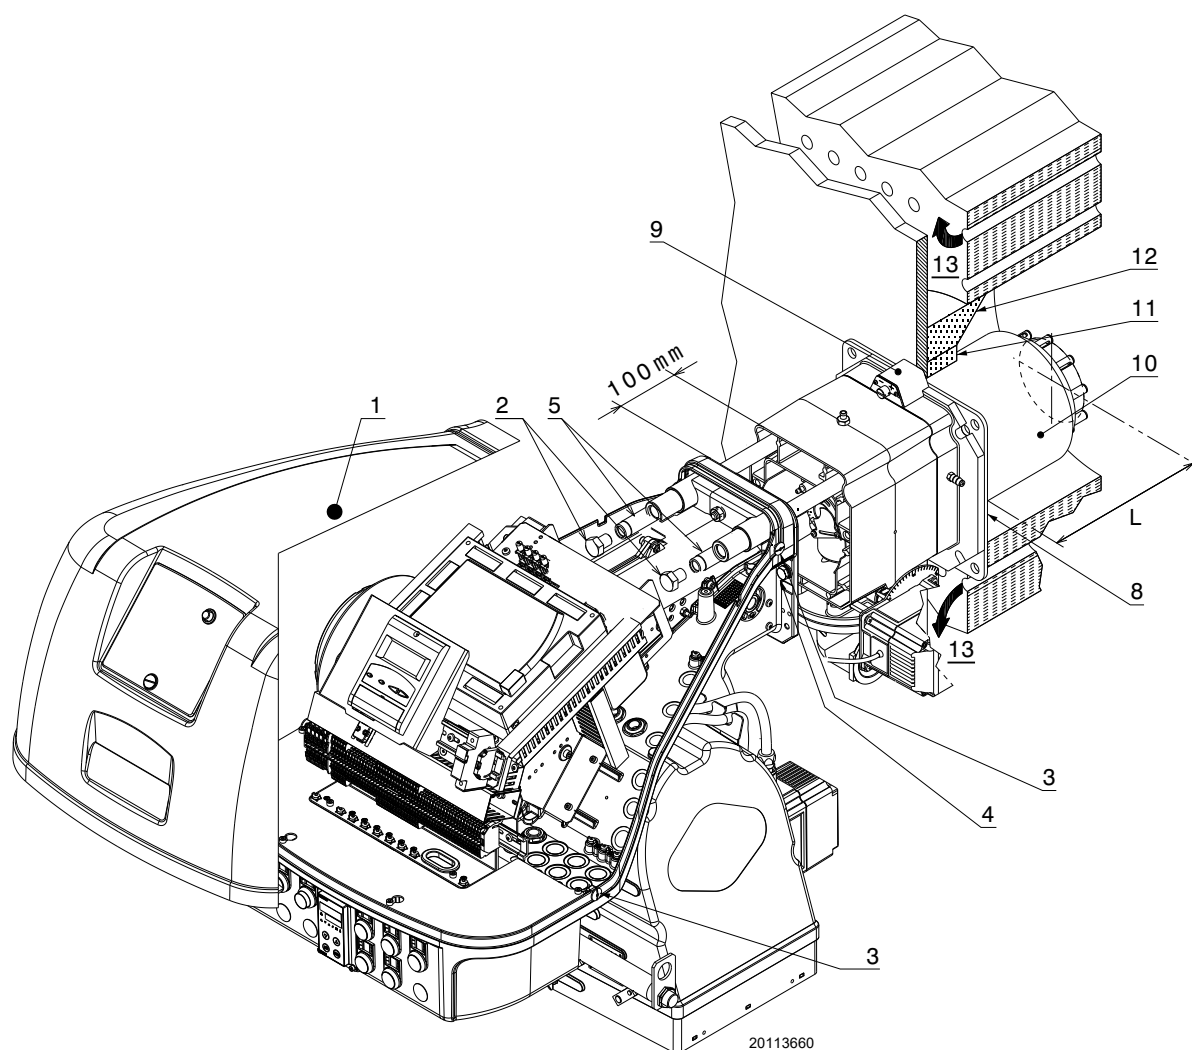

Fig. 16
For boilers with front flue passes 13)(Fig. 16 at page 21), or flame inversion chambers, a protection in refractory material 11) must be inserted between the boiler refractory 12) and the blast tube 10).
For boilers with a water-cooled frontal, a refractory cover is not necessary 11)-12)(Fig. 16), unless expressly requested by the boiler manufacturer.
Separate the combustion head from the rest of the burner, as in Fig. 16; proceed as follows:
- reassemble the burner on the guides 3) at about 100 mm from the pipe coupling 4) - burner in the position shown in Fig. 16;